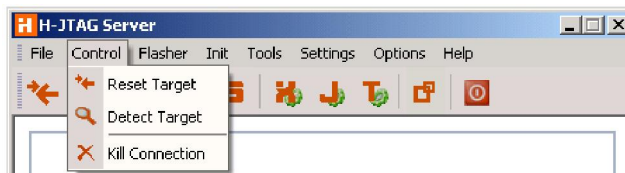

Fig 2-9 Control Menu
- Control Menu, as shown in Fig 2-9.